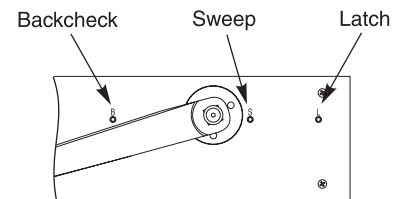

Figure 15
1. With provided 1/8" hex wrench, completely tighten latch and sweep valves by turning screws clockwise. This will allow for an easier closer-to-door connection. (Figure 15)